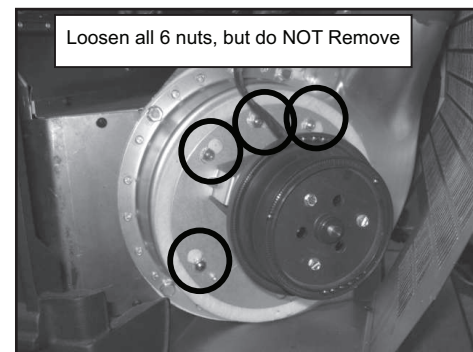

Figure 38.4
2. Remove side panel and then using an 11/32 nut driver to loosen all six nuts, but do not remove. Rotate the blower and remove from the housing. **Figure 38.4.**